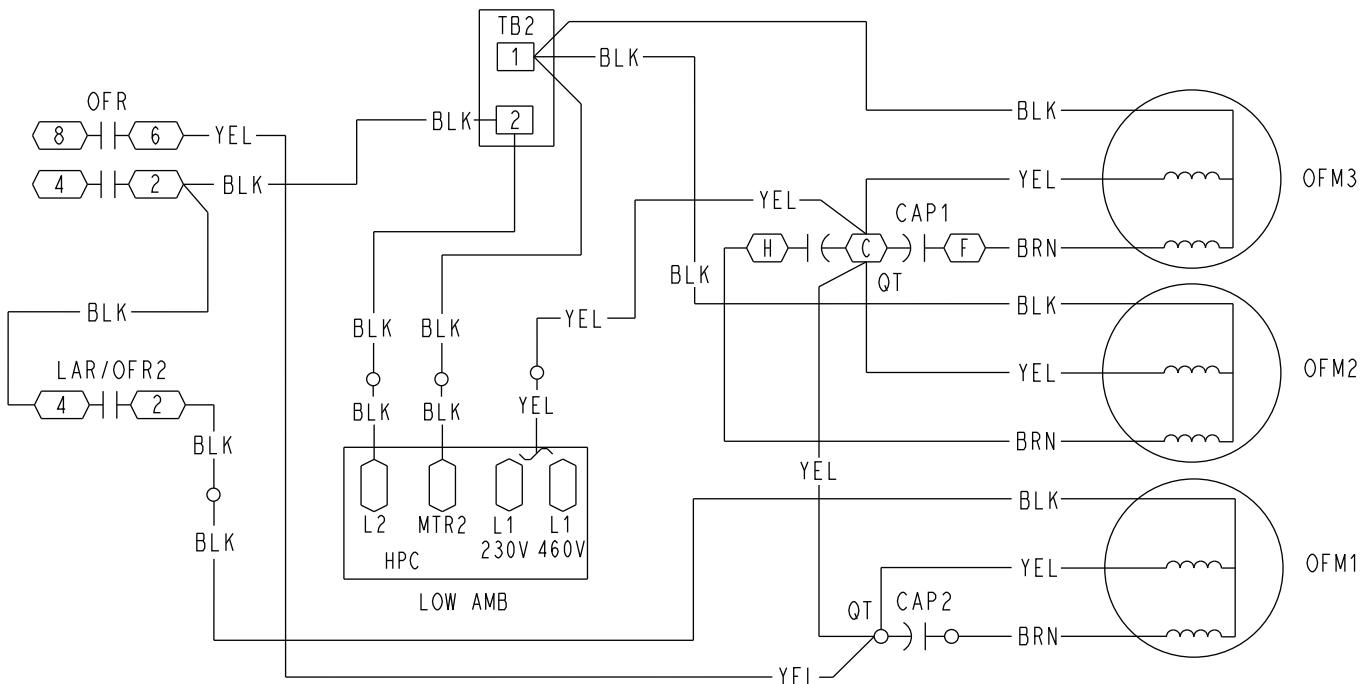

Fig. 11 — Cabinet B — High Voltage Wiring Diagram (208/230-v and 460-v)
- b. Locate the black wire that runs from the OFR/OFR1 terminal 2 to TB2-1 (left side terminals). Disconnect at TB2-1 and connect to TB2-2 (right side terminals). See Fig. 11 and 13 as needed.
- d. Attach the yellow wire with heat shrink terminal to the capacitor (CAP1) as shown in Fig. 11.
- e. In the HV harness, attach the black wire with a female quick connect to TB2-2 (left side) with OFM2 and OFM3 black wires as shown in Fig. 11.